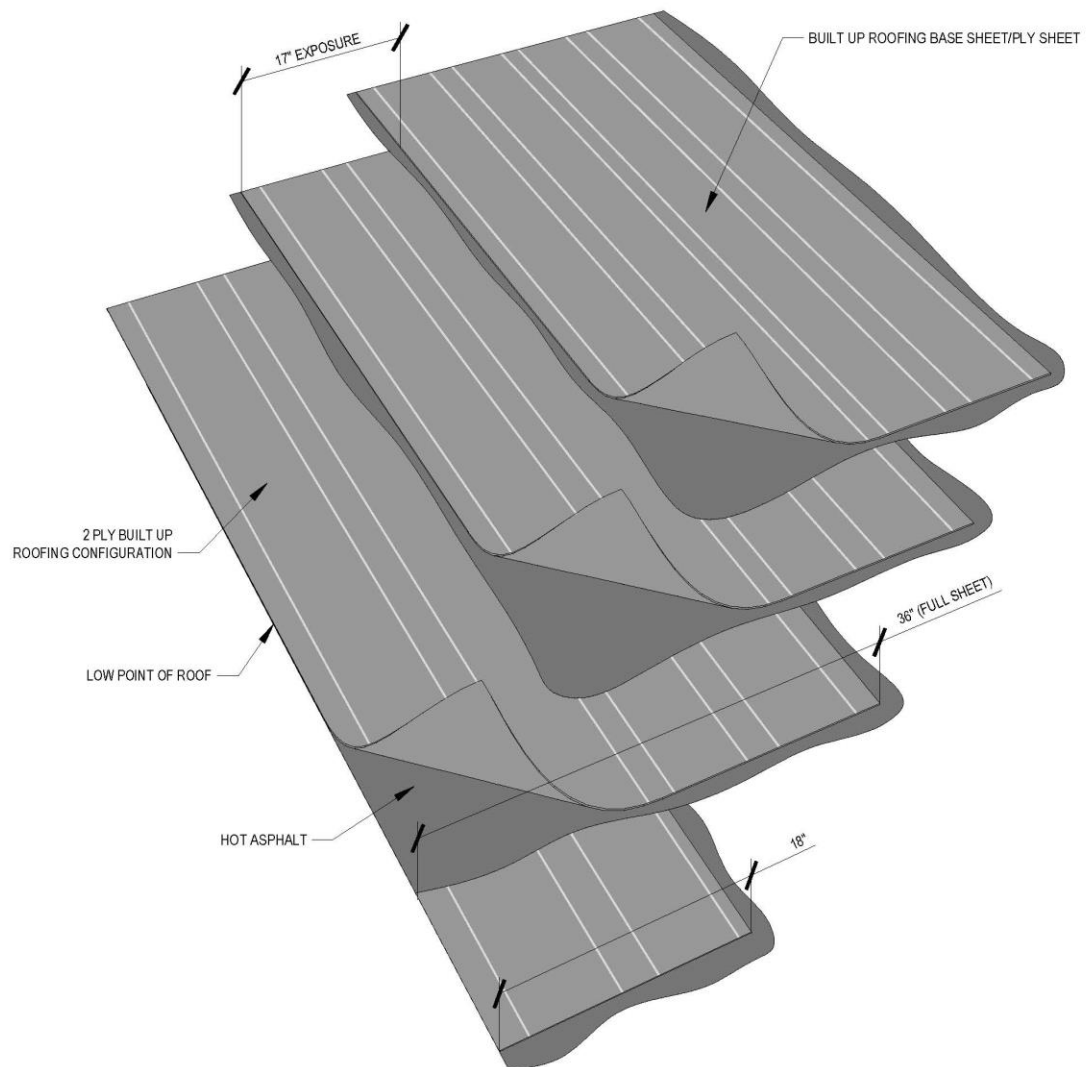

Figure 2.2a Two (2) Ply Built Up Roofing Configuration
- TWO (2) PLY BUILT-UP ROOFING APPLICATION (Refer to Figure 2.2a):